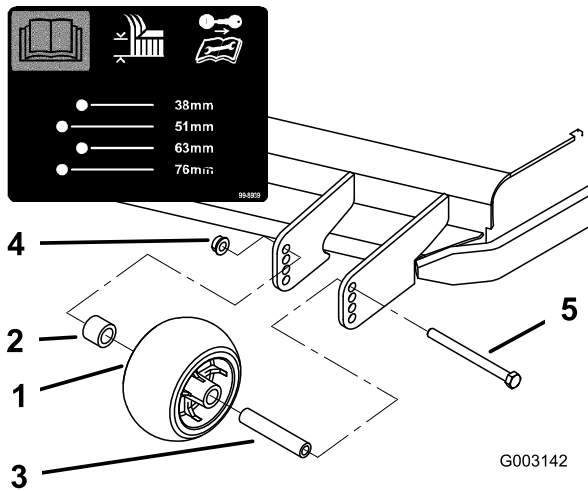
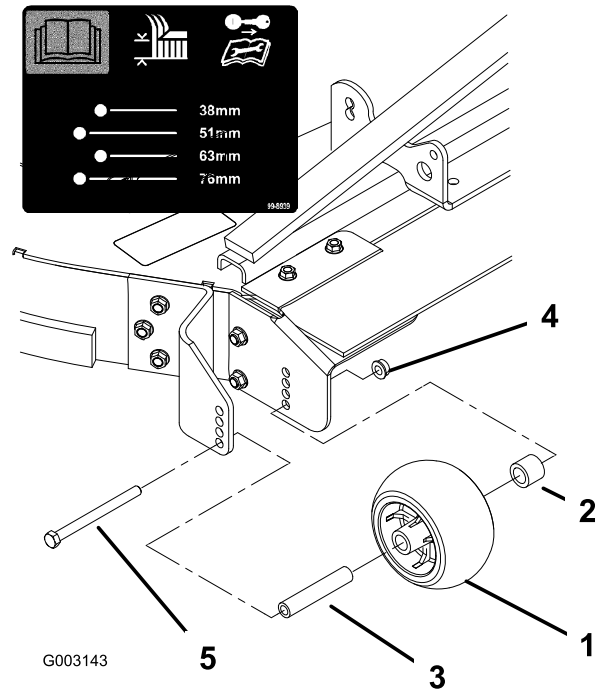
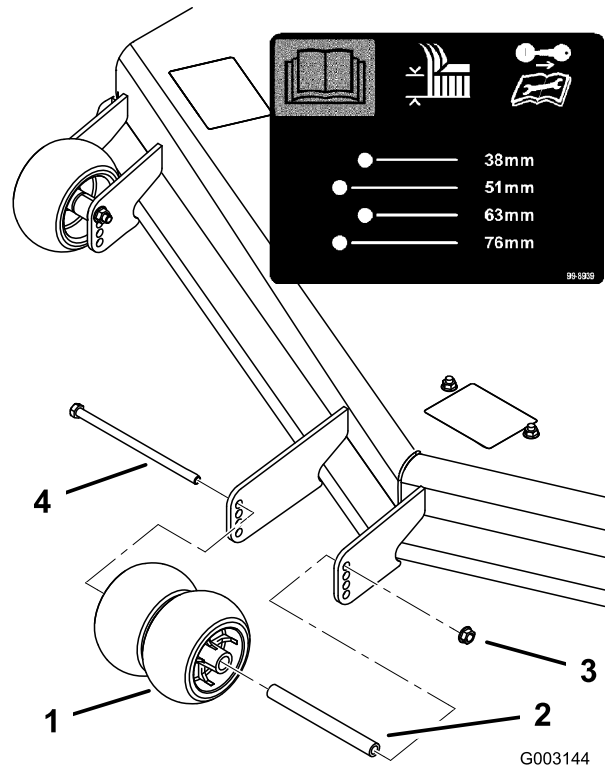

Figure 19
Figure 20
Figure 21
- After adjusting the height-of-cut, adjust the rollers by removing the flange nut, bushing, spacer, and bolt (Figure 19 , Figure 20 and Figure 21).
Note: The two middle rollers will not have a spacer (Figure 20).
- Install the flange nut bushing, spacer, and bolt. Torque to 40-45 ft-lb (54-61 N•m) (Figure 19 , Figure 20 and Figure 21).